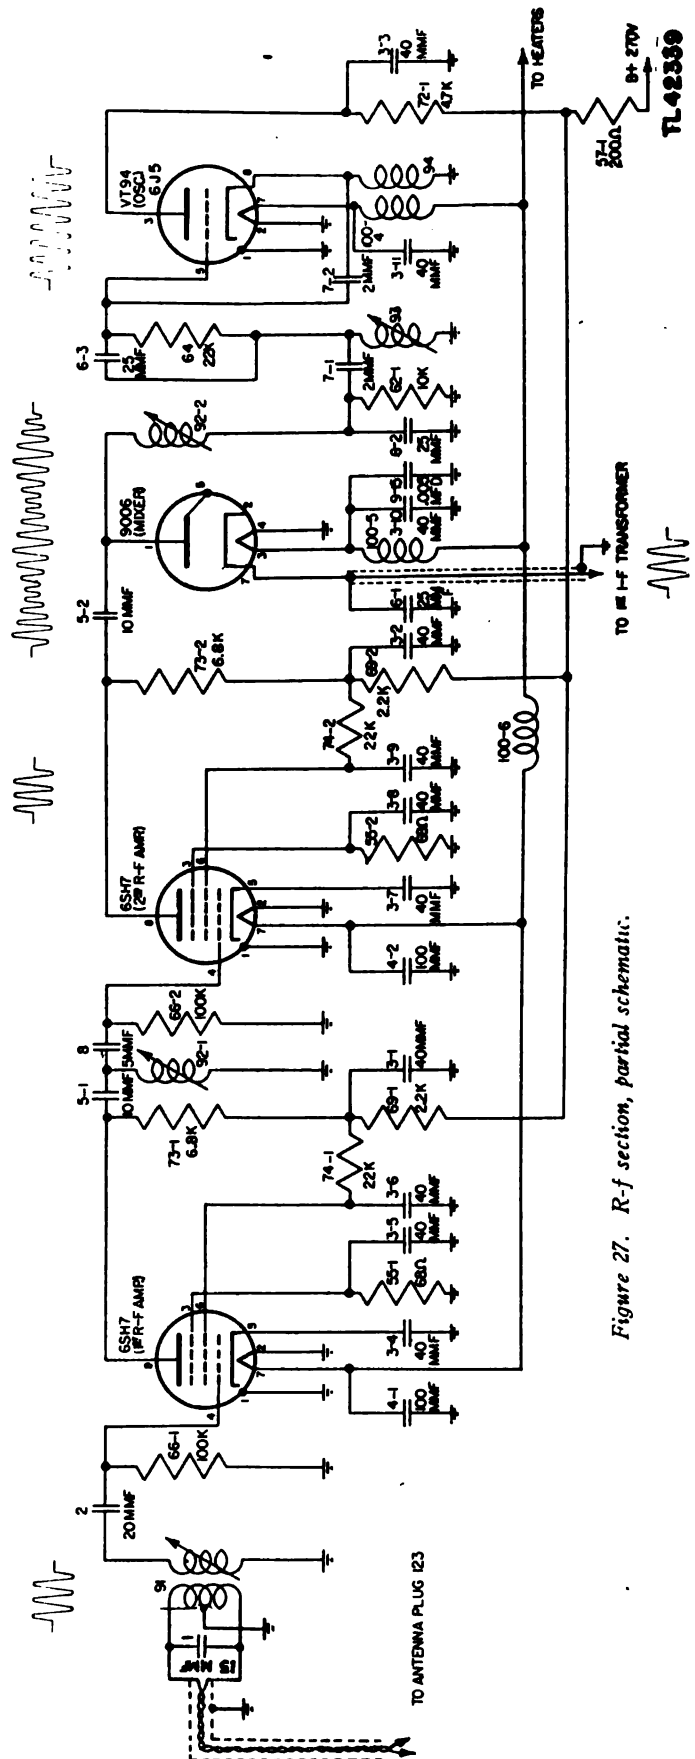
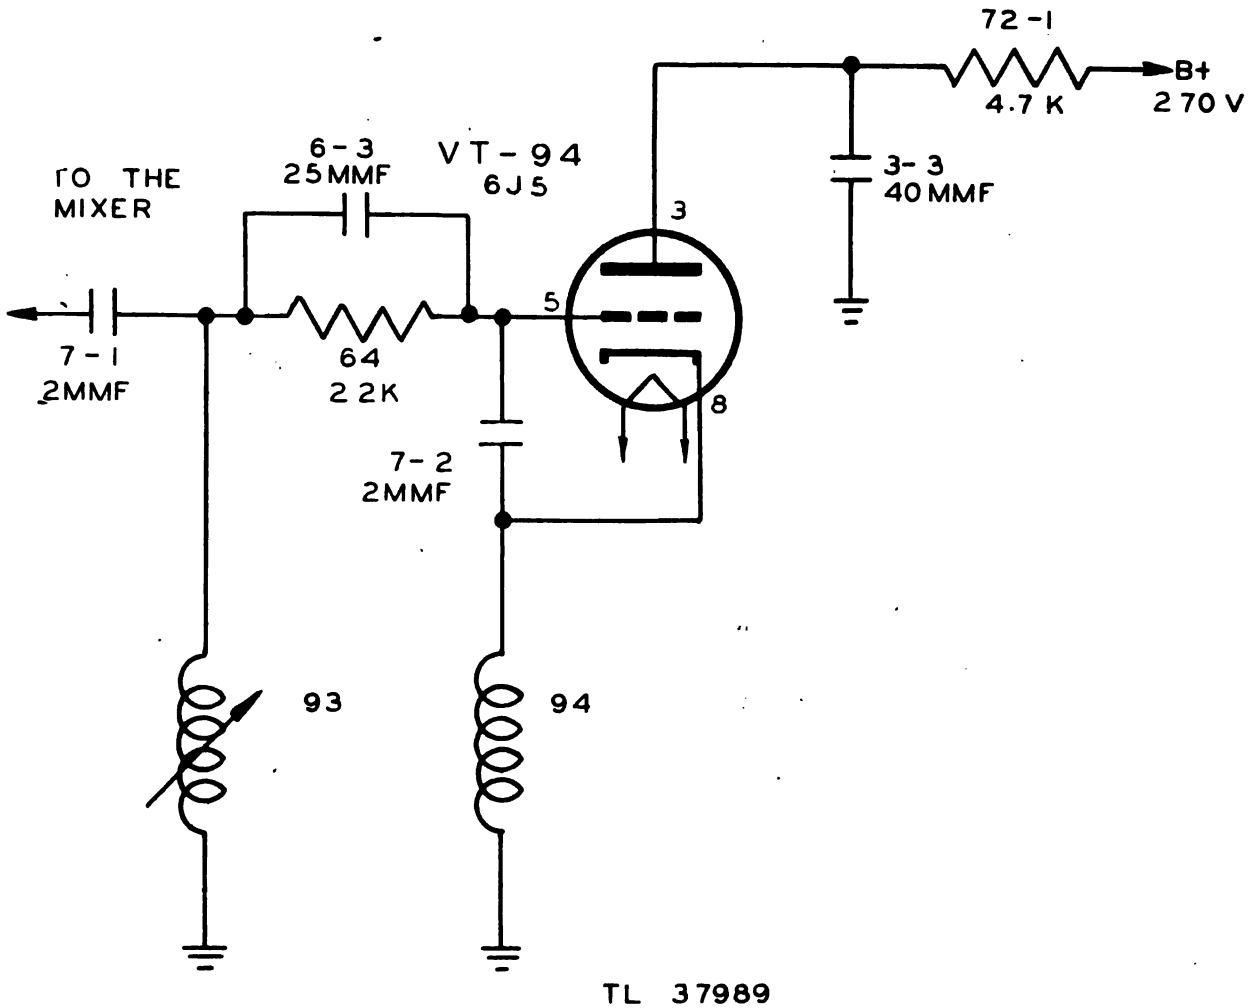

Figure 27. R-f section, partial schematic.
Figure 28. Local oscillator, partial schematic.
**c. OUTPUT CIRCUIT.** The plate load 73-1 of the first r-f amplifier is a resistor and the output of this stage is coupled through capacitor 5-1 to another tuned circuit 92-1. (See fig. 27.) This second tuned circuit is adjusted by means of the knob on the front panel marked "RF". The signal appearing across this tuned circuit is then RC coupled to the grid of the second r-f amplifier. The filament r-f choke 100-6 in the ungrounded side of the filament supply to these two tubes is used to prevent r-f from breaking through to the filament supply. The plate load of the second r-f amplifier is a resistor 73-2. The output from this stage is coupled into the mixer by means of capacitor 5-2. The gain for the two r-f stages is approximately two per stage.
**a. GENERAL.** To generate the desired i-f signal of 11 megacycles, it is necessary to mix the r-f signal with the frequency of the local oscillator and tune the first i-f stage to the difference between the two frequencies. The local oscillator in this receiver (fig. 28), is a modification of the Colpitts type in which the plate capacitor is replaced by a coil 94. This coil is constructed to be resonant below the lowest operating frequency of the oscillator. Therefore, at the frequency of operation the coil functions as a capacitive reactance. The frequency of the oscillator is determined by the capacitor 7-2 and the capacitive coil 94, in series, acting as a capacitor in resonance with coil 93. (See fig. 27.)